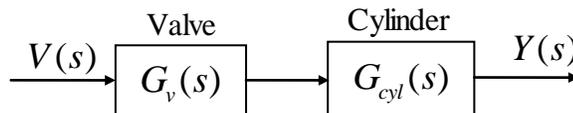

Figure 2. Block Diagram of an Open-Loop Hydraulic Actuation System
- To understand the response of the closed-loop system, we start by analyzing the open loop system shown in Fig. 2. Unfortunately, measurements of this system show the transfer functions $G_v(s)$ and $G_{cyl}(s)$ both depend on the magnitude of the input voltage $V(s)$. In short, the system is **non-linear**.